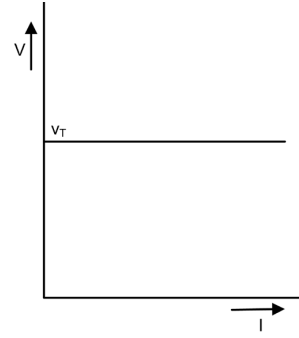

Fig. 1.29: V-I characteristic of ideal voltage source
In practice the Alternating voltage (AC) and current generated approximates a sine wave very closely. Therefore, the calculation of the AC voltage and current are based on sine waves. A true sine wave is shown in Fig.1.29 and is represented as.